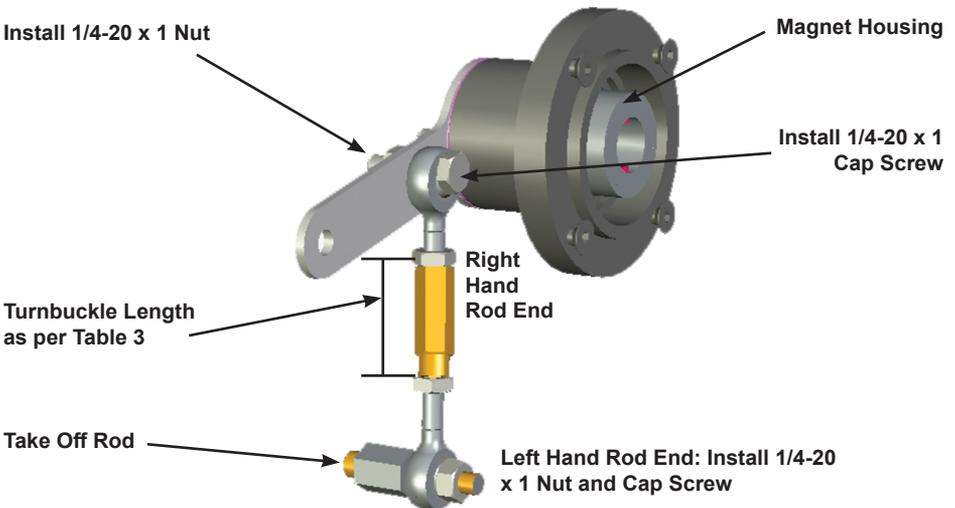

Figure 14 - SVi1000 Take Off Rod Mounting
- Thread the take-off rod to the actuator stem connector (Figure 14).
5. Attach the right hand threaded rod end to the lever using a 1/4 - 20 x 1" cap screw and nut (Figure 14).
10. Thread the turnbuckle onto the left hand threaded rod end (Figure 14).
11. Adjust the turnbuckle until the hole in the lever is aligned with the alignment hole in the bracket. Tighten both turnbuckle lock nuts (Figure 14).